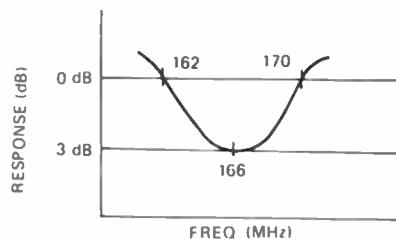

FIGURE 10
- Step 2: Adjust L1, L2 and L3 results at maximum output and best symmetry curve as shown in Figure 10.